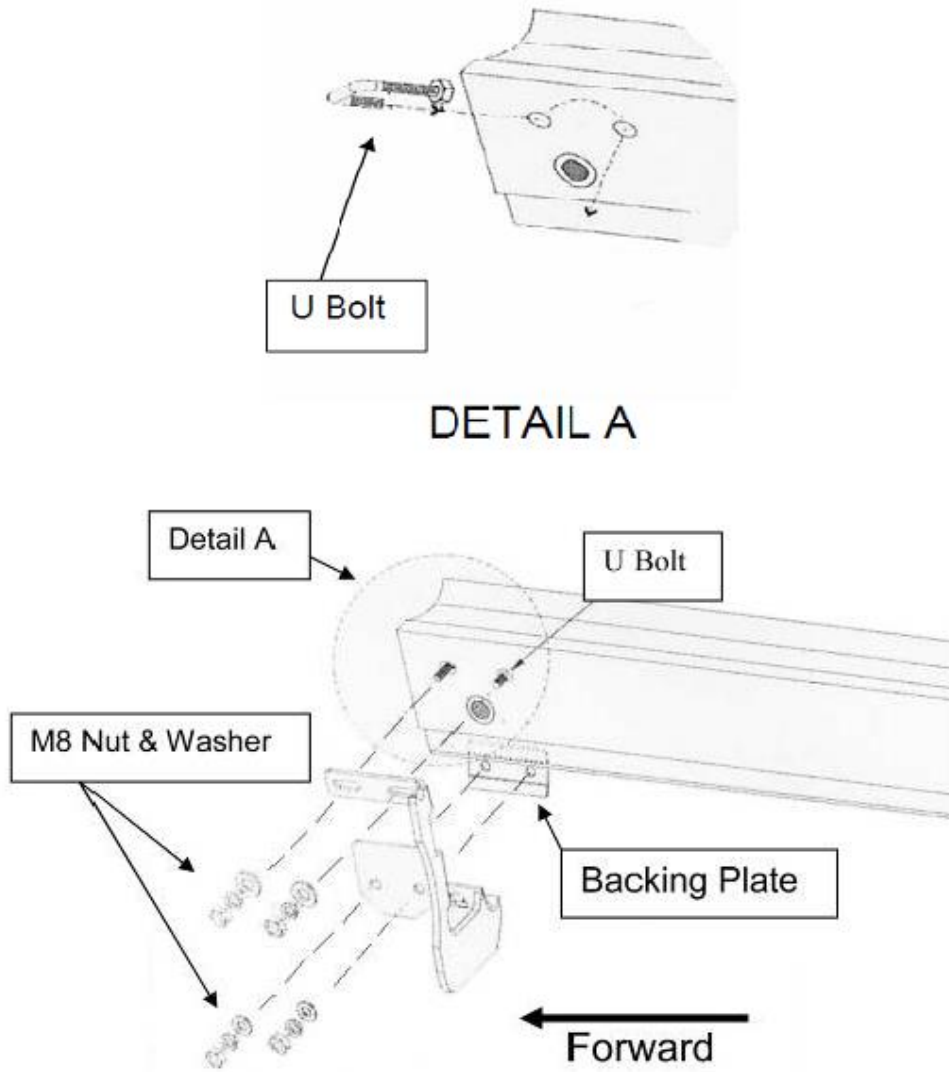

Figure 1. Passenger Side Front Bracket
2. Locate the round holes on rocker panel for bracket installation. Insert M8 hex nut on the longer end of U-bolt. Insert U-bolt through the first hole and out through the second hole. Install M8 hex nut on shorter end of U-bolt after it comes through second hole in the rocker panel. This will help prevent the U-bolt from falling into the rocker panel. Remove the hex nut on the longer end of the U-bolt and position the top flange of the bracket onto the longer end of the U-bolt. Secure with M8 bolt set as shown. Leave loose. Remove the hex nut on the shorter end of the U-bolt. Position bracket and secure with M8 bolt set as shown. Repeat for all brackets. See Figure 1.
3. Secure the backing plates to the bracket using M8 bolt set as shown and leave loose. The backing plate will clamp the bracket and pinch weld together. See Figure 1. 2.